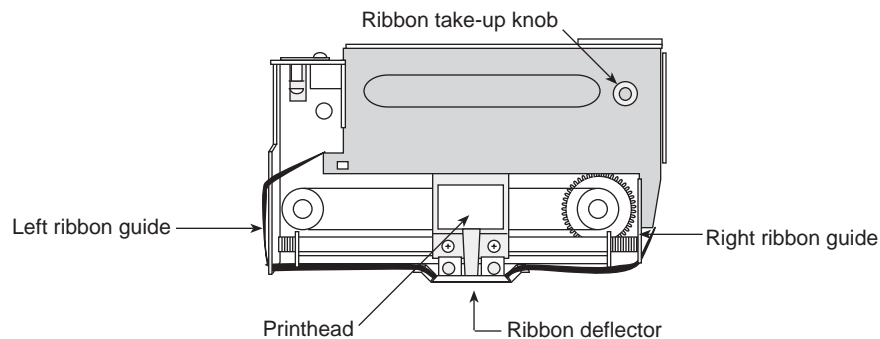

Figure 3. Installed ribbon cartridge, showing ribbon path
4. Use a pencil to loop the ribbon over the left ribbon guide (see Figure 3).